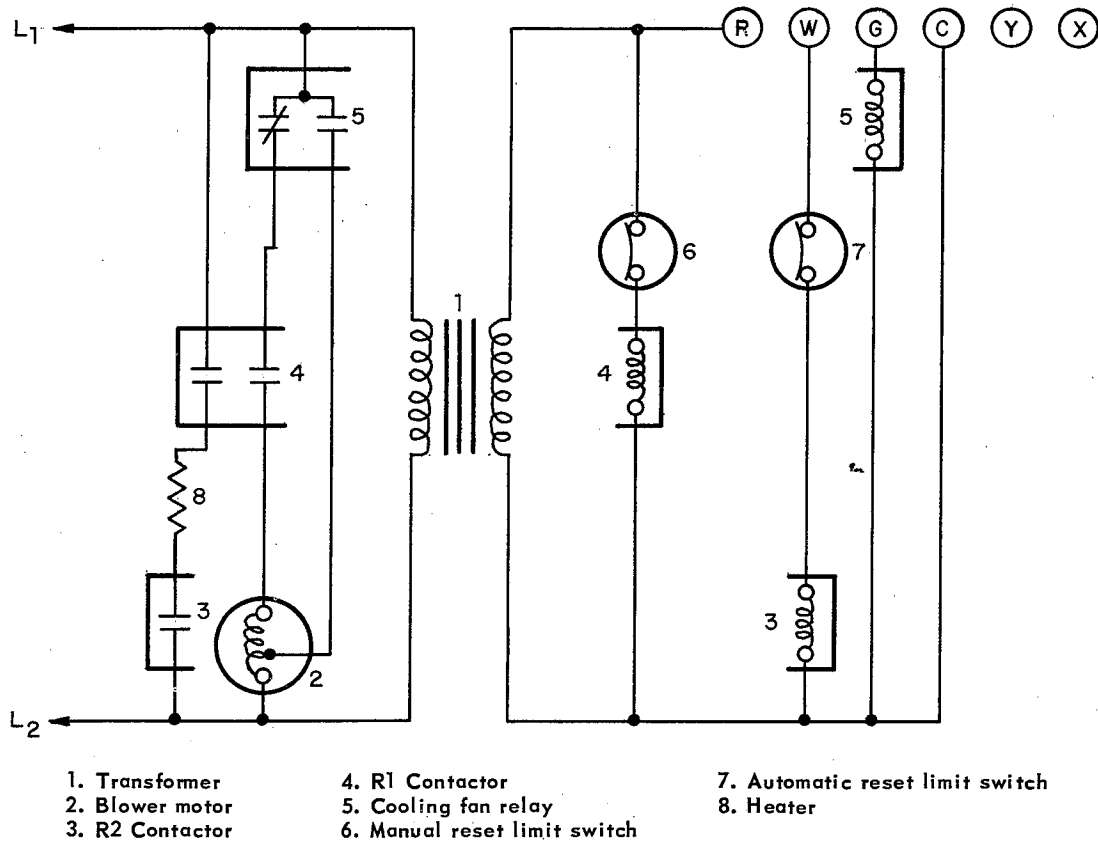

Figure 1 - Wiring Diagram for 3-, 4-, & 5-KW Electric Duct Heater
- A. When the thermostat calls for heating, the primary contactor closes. See Figures 1 and 2.